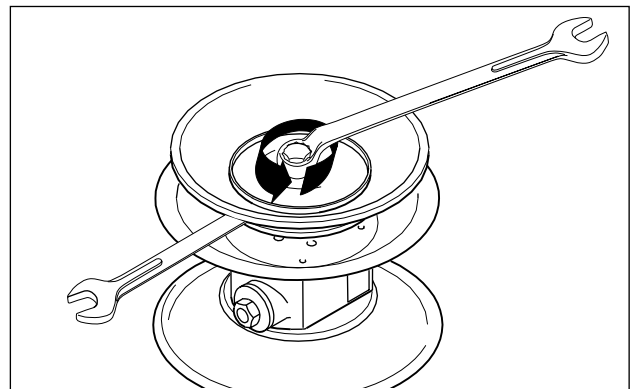

Fig. 10: Loosening the diaphragm plate.
- Loosen the outer diaphragm plate and take it off with the diaphragm (Fig. 10). On plastic pumps turn on the plastic cap first (from DL25).